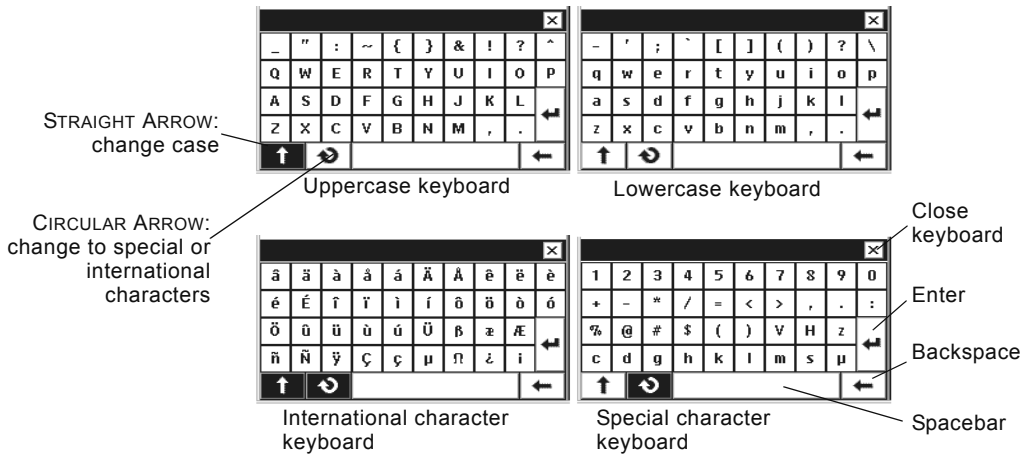

Figure 6. Programmer keyboards.
- **Keyboard**—The keyboard appears when the stylus contacts an input box that requires alphanumeric input. To enter data, select each character. Four keyboards are available (Figure 6):